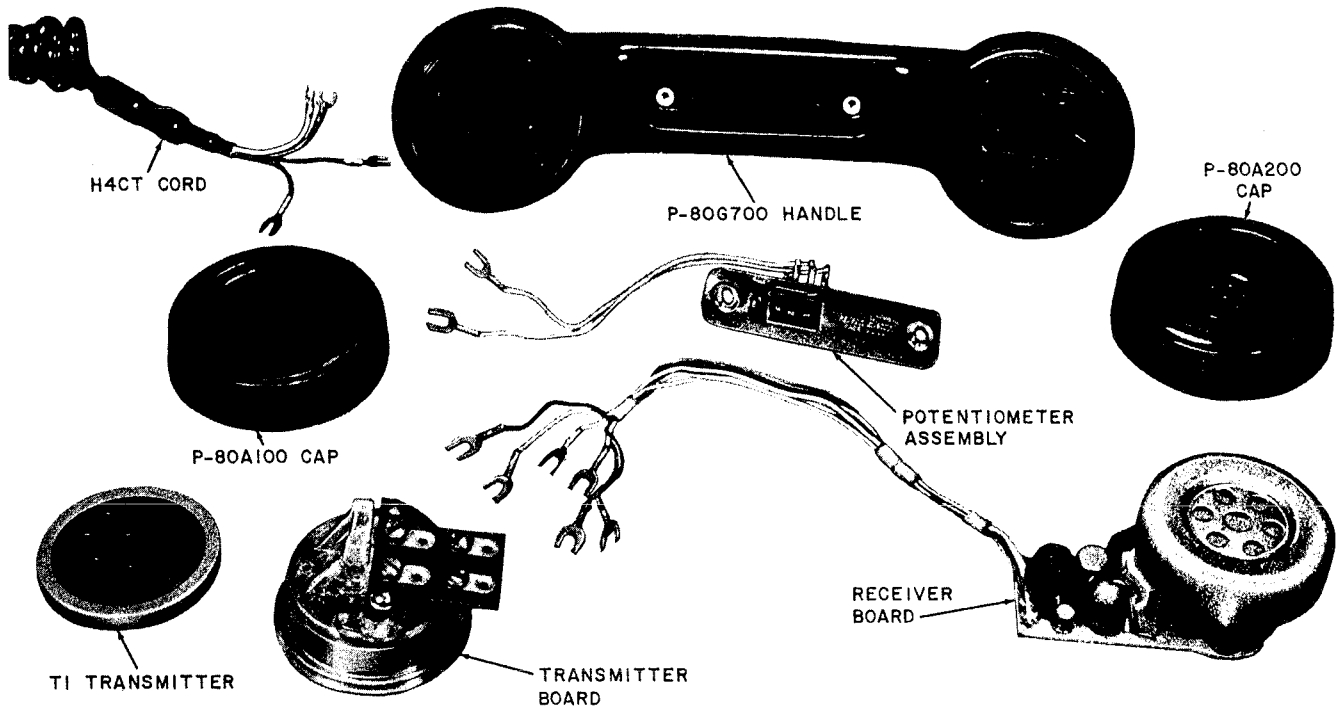

Fig. 2 — G6B Handset, Assembly
2.06 The G6B handset (Fig. 2) replaces the G6AR. The transistorized amplifier and polarity guard units are located on a printed circuit board in the receiver end of the handle. The amplifier, potentiometer assembly, and H4CT cord connect to a terminal board located in the transmitter cavity.